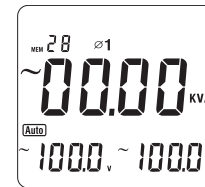

Figure 17
4. When measuring 3 phase 4 wires: (see figure 17, 18, 19)
- Press **SELECT** to choose the first phase  $\varnothing 1$ , see figure 17.